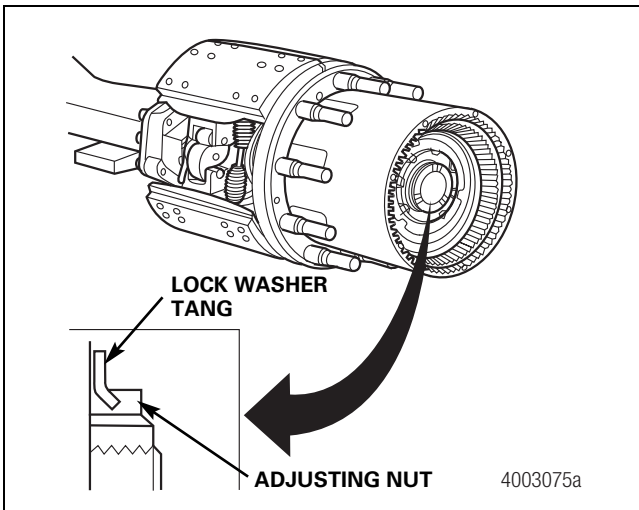

Figure 3.44
6. Bend the two opposing lock washer tangs into the grooves in the wheel bearing adjusting nut. The tangs should be at a 45-degree angle to the ring gear hub. Figure 3.44.